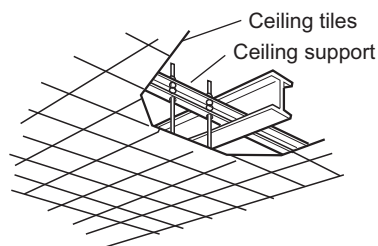

Fig. 1-111
- Use existing ceiling supports or construct a suitable support (Fig. 1-111).